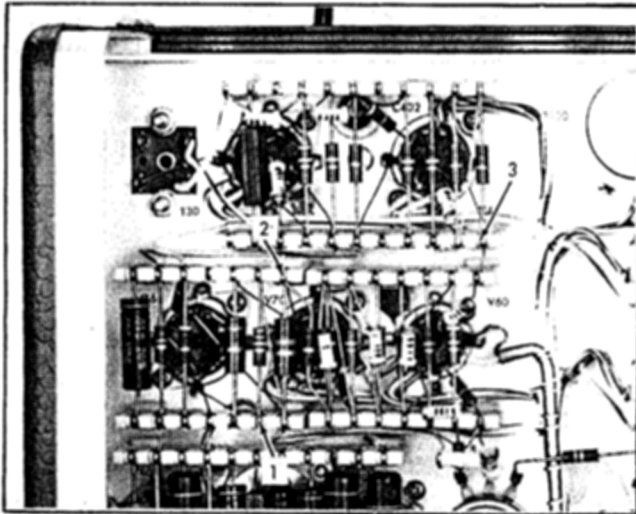
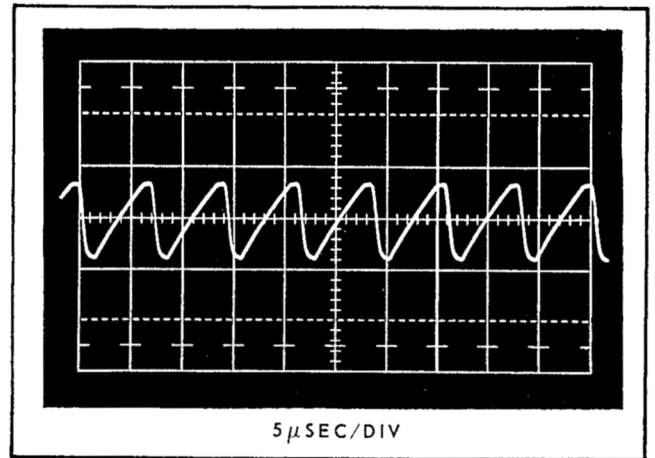
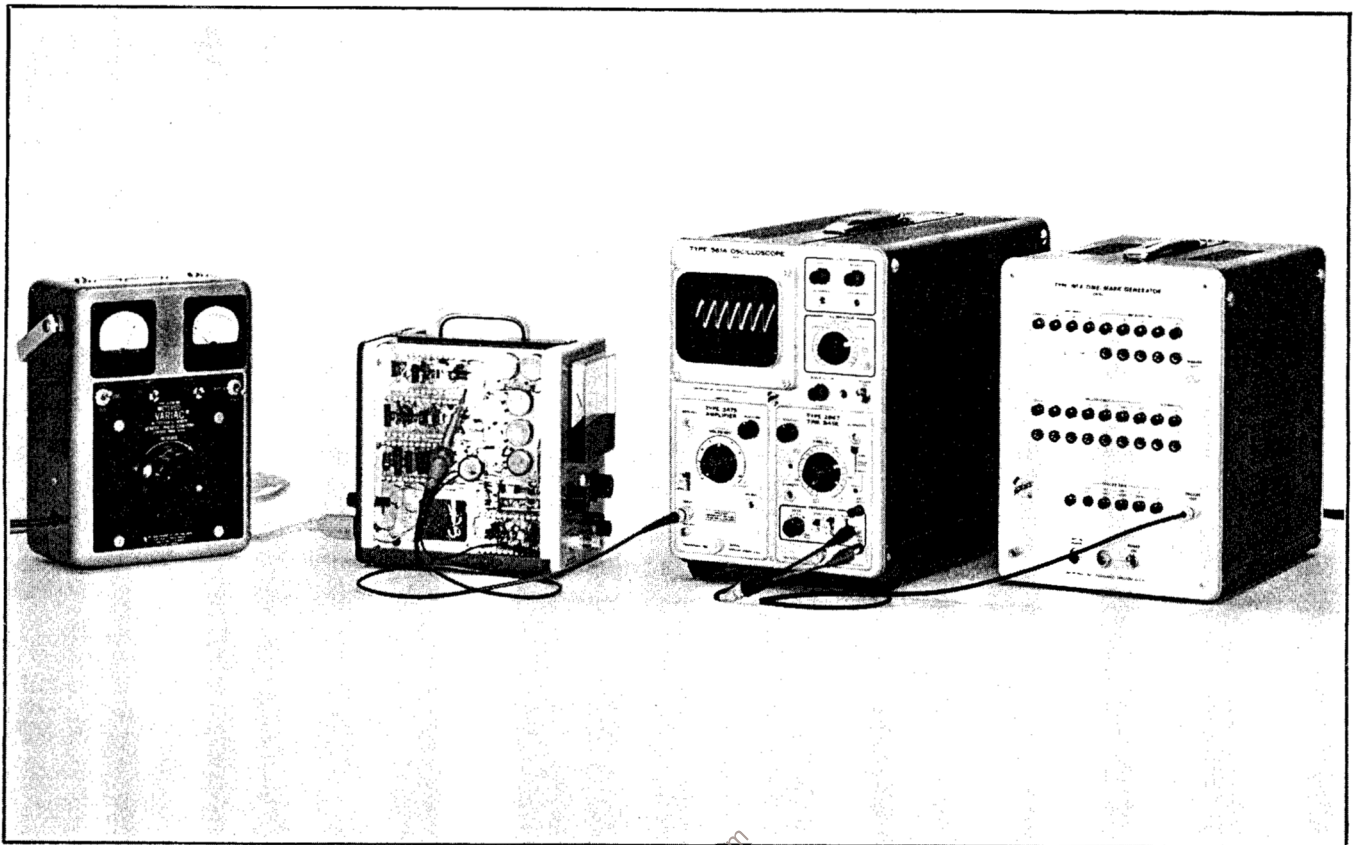

Fig. 6-3. Power supply test points No. 1 and No. 2. Fixed Oscillator test point No. 3.
Fig. 6-4. Fixed oscillator signal at test point No. 3.
Fig. 6-5. Step 4 test set-up for accurate adjustment of Fixed Oscillator frequency.
b. Measure the +270-volt supply voltage at test point #1 shown in Fig. 6-3. The supply voltage must be within the limits of +240 to +280 volts. With a meter equivalent to that stated in the Equipment Required list, the supply voltage must be within the limits of +240 volts plus the meter scale tolerance and +280 volts minus the meter scale tolerance.
c. Change the voltmeter selector switch to the 160 volt DC range. Measure the +150-volt supply voltage at test point #2 shown in Fig. 6-3. Vary the line voltage slowly from 105 to 125 volts. The +150-volt supply voltage must remain within 5% of 150 volts. With a $\pm 1\%$ meter equivalent to that stated in the Equipment Required list, the supply voltage limits are from +144 to +156 volts on the meter scale.
and the probe tip to test point #1 shown in Fig. 6-3. With the line voltage at 117 volts RMS the 120 Hz ripple should be less than 12 volts peak to peak.
e. Connect the 10X Probe tip to test point #2 shown in Fig. 6-3. Vary the line voltage slowly from 105 to 125 volts. The 120 Hz ripple should be less than 1 volt peak to peak. If the ripple is greater than 1 volt peak to peak, check that the +150-volt supply load current is not greater than about 22 milliamperes by inserting a milliammeter in series with R403. If the load current is correct, change V403 and start back at step 2c.
c. Connect the 10X Probe tip to test point #3 shown in Fig. 6-3. Adjust the test oscilloscope triggering controls for a stable display similar to Fig. 6-4. The display should show exactly seven complete cycles in ten CRT major divisions. If other than seven cycles, adjust T30 screwdriver adjustable slug until the display is correct.
Connect the 10 \times Probe tip to test point #3 shown in Fig. 6-3.
4. Final Adjust Fixed Oscillator Frequency ①
a. Connect the test setup shown in Fig. 6-5. The display will be a smear of the stable waveform shown in Fig. 6-4 if